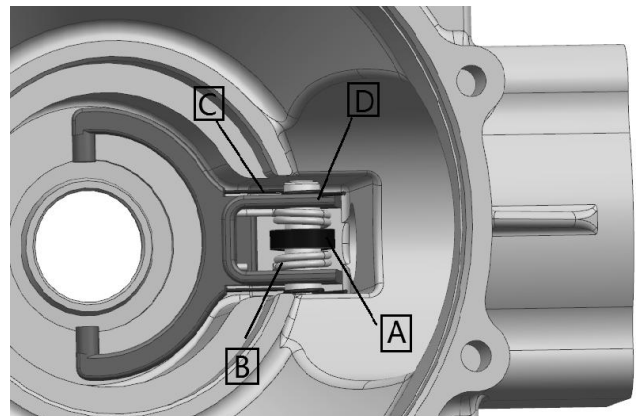

Fig 9
**proceed to “Rear Gearcase Assembly.” →Fig 9**